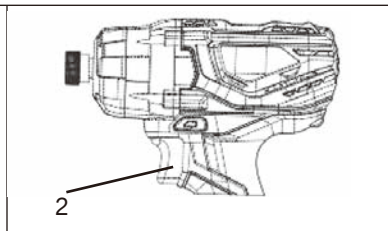

FIG. 6
1. To start the impact driver, gently squeeze the trigger switch (2) (Fig. 6). **NOTE:** The impact driver will turn at its slowest speed when the trigger switch is squeezed lightly. The impact driver will turn at its fastest speed when the trigger switch is squeezed firmly.